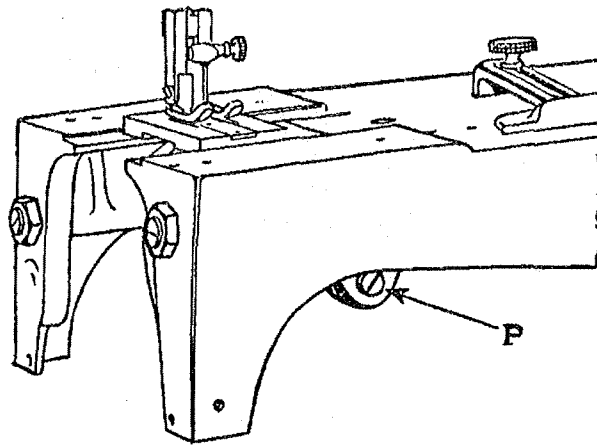

Fig. 13 Setting the Shuttle with Relation to the Needle
In such cases, loosen the clamping screw (P), Fig. 13 beneath the machine bed, and move the shuttle race slightly to right or left to suit the needle being used, then securely tighten the clamping screw (P).